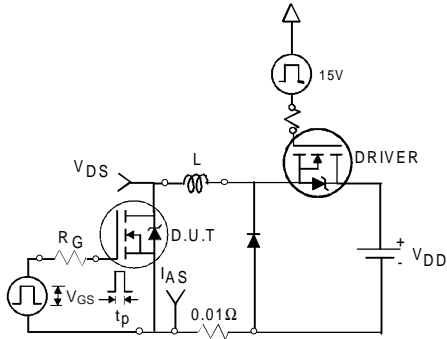

Fig 12a. Unclamped Inductive Test Circuit
- ③ I_{SD} ≤ 85A, di/dt ≤ 310A/μs, V_{DD} ≤ V_{(BR)DSS}, T_J ≤ 175°C
- ④ Pulse width ≤ 400μs; duty cycle ≤ 2%.
- ⑤ C_{oss eff.} is a fixed capacitance that gives the same charging time as C_{oss} while V_{DS} is rising from 0 to 80% V_{DSS}.
- ⑥ Calculated continuous current based on maximum allowable junction temperature. Package limitation current is 75A.
- ⑦ Limited by T_{Jmax}, see Fig.12a, 12b, 15, 16 for typical repetitive avalanche performance.
3. Equation below based on circuit and waveforms shown in Figures 12a, 12b.